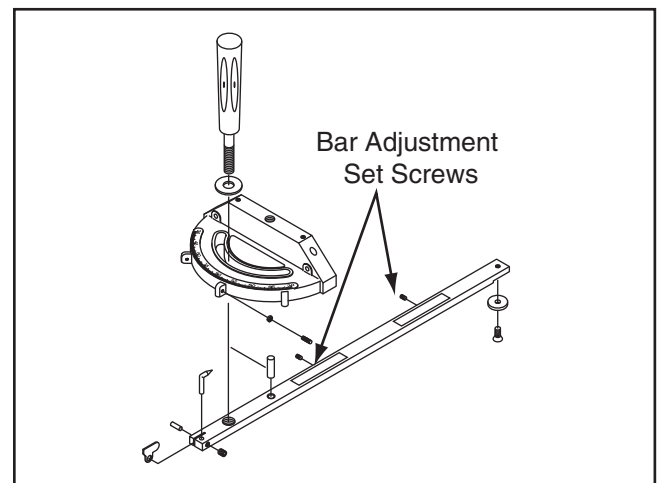

Figure 127. Screws for adjusting miter bar in miter slot.
1. Adjust set screws shown in **Figure 127**.